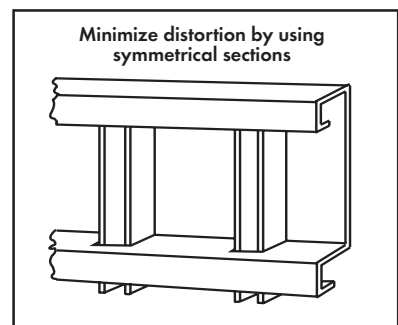

Figure 62.
- Use of symmetrical designs (figure 62).